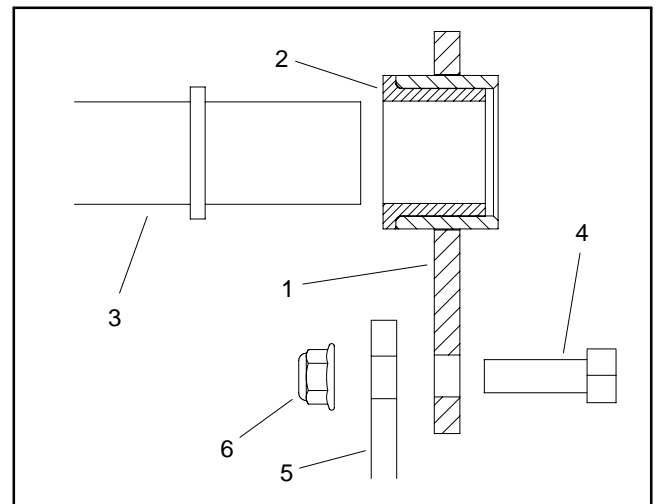

Figure 42
NOTE: The pivot (item 9) includes a flange bushing. Make sure that when pivot is installed to machine, the bushing flange is orientated toward center of machine (Fig. 42).
- B. On both sides of machine, slide pivot (item 9) onto rear cover subframe pivot and secure pivot to frame with two (2) cap screws and flange nuts.
- C. On both sides of machine, secure rear cover subframe hoop (item 2) to machine frame with two (2) cap screws, flat washers and flange nuts.